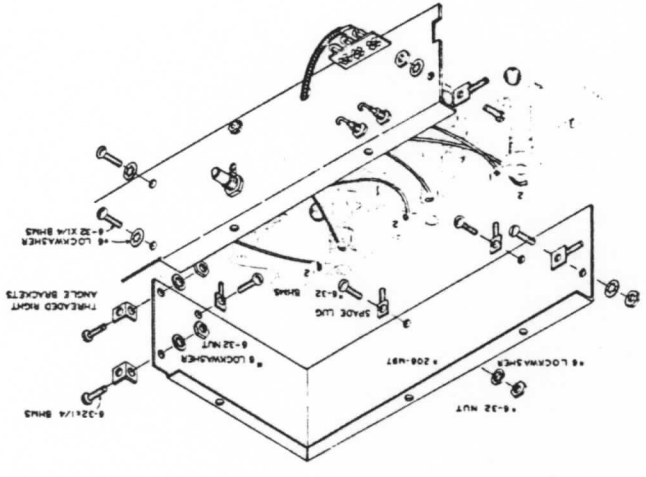

Figure 10
(M) Locate the right angle VFO shield (#206-M97), and refer to Figure 10. Mount the three spade lugs along the edge away from the flange; one at the leading edge and the two right angle brackets on the opposite vertical side. Use 6-32 x 1/4" BHMS and 6-32 nuts. Use 6 lockwashers under all nuts. Slip the shield into position by tilting it toward the rear of the top plate and inserting the rear spade lug first, then the two along the side through their respective top plate holes. Fasten with 6-32 nuts and 6 lockwashers from the chassis top. Secure the shield to the chassis center partition with two 6-32 x 1/4" BHMS and 6 lockwashers through the center partition and into the threaded right angle brackets. Tighten all mounting hardware securely.